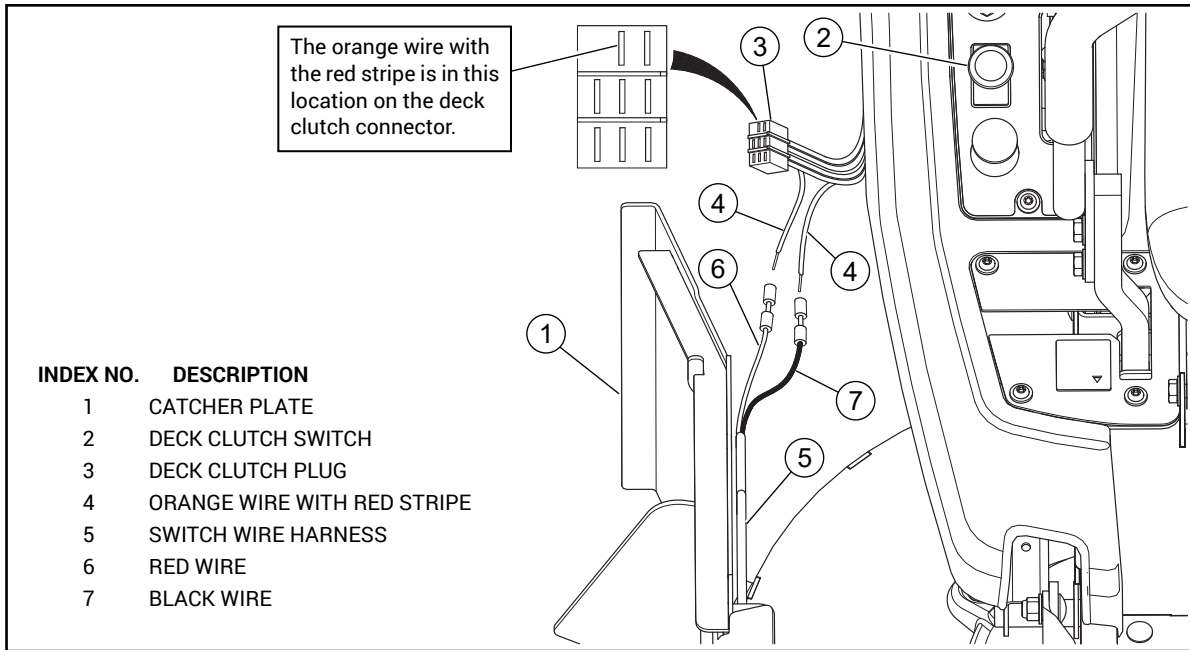

FIG. 7
8. Locate the orange wire with the red stripe. Cut the orange wire with the red stripe about 5" from the connector. Strip 1/4" of the covering from each side of the cut wire. Fig. 7
9. Locate the red wire connector on the dump from seat kit wire harness. Insert the orange/red wire that is coming from the deck clutch switch harness connector into the connector on the red wire and crimp securely. Fig. 7
10. Insert the orange/red wire coming from the mower wire harness into the connector on the black wire coming from the dump from seat kit wire harness and crimp securely. Fig. 7